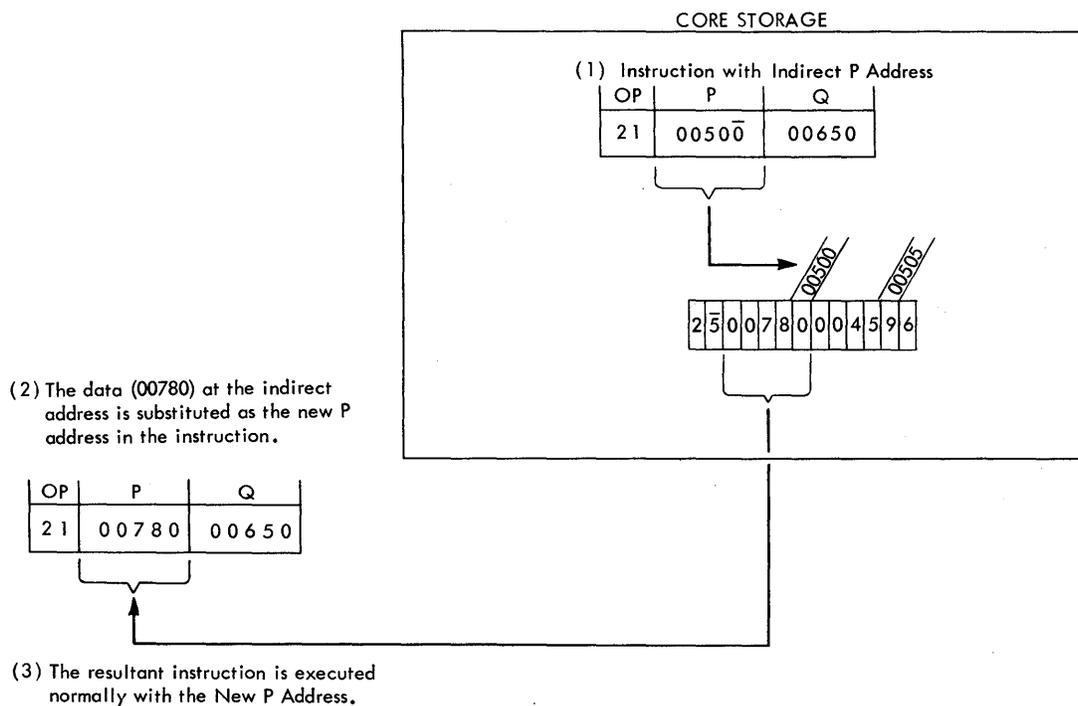

Figure 7. Indirect Addressing Data Flow
The P or Q address of an instruction is indirect when a flag bit is over the units position. Figure 7 shows that (1) the instruction (21 00500 00650) has an indirect P address of 00500, (2) the data at 00500 is 00780, which is used as the P address during execution of the instruction, and (3) the instruction (21 00500 00650) is not altered in core storage; only the instruction register of the 1620 is changed.